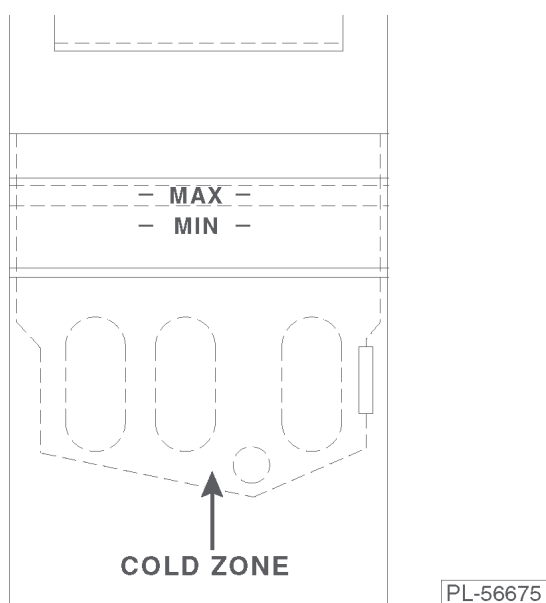

Fig. 8
- A cold fryer will not drain properly. Always filter shortening in a liquid state. The shortening under the cold zone area will remain hard, even if the heat is on for a few minutes. If necessary, use the cleanout rod to carefully stir the hard shortening to an area above the cold zone (Fig. 8) where it will melt.